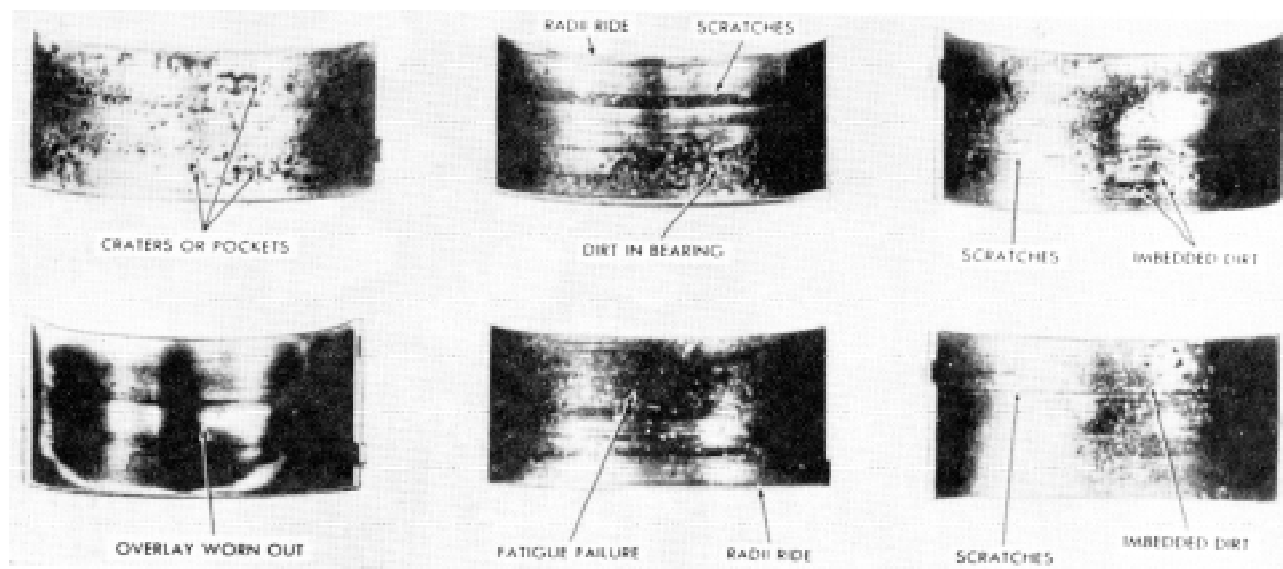

Figure 20
1. If the bearing liners are scored, have the flash overlay wiped out, show fatigue failure, or are badly scratched, as shown in Figure 20, Install new bearing liners.